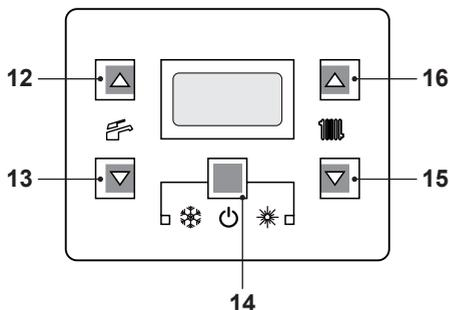
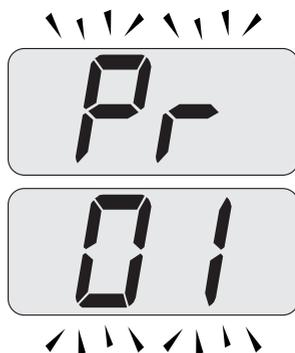
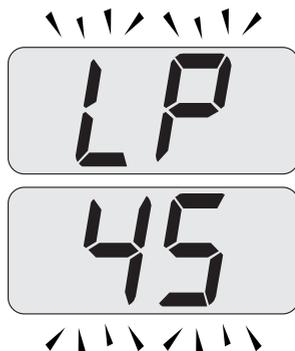
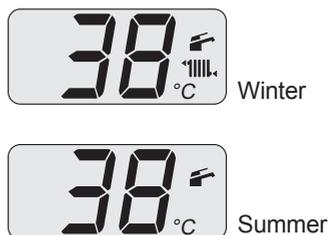

Fig. 9.17
Fig. 9.18
Fig. 9.19
Fig. 9.23
- Enter in "programming mode" by pressing keys 14 - 15 - 16 (Fig. 9.17) for 10 seconds at the same time until the letters **Pr** that alternate with code **01** are displayed on the LCD display, indicating that "parameter 01" (Fig. 9.18) has been activated.
- Press keys 15 and 16 (Fig. 9.17) at the same time until the LCD display displays the letters **LP** that alternate with the heating water temperature value (e.g. **45**), indicating the activation of the "chimney sweep function" at minimum output (Fig. 9.19).
- By pressing 16 (Fig. 9.17) it is possible to change power in chimney sweep mode: with the letters **hP** on the LCD display which alternate between the heated water temperature (i.e. **32**), we are in the "chim-
- Press keys 14 - 15 - 16 (Fig. 9.17) at the same time again to exit the "chimney sweep mode" and return to the previously set boiler status (Fig. 9.23).